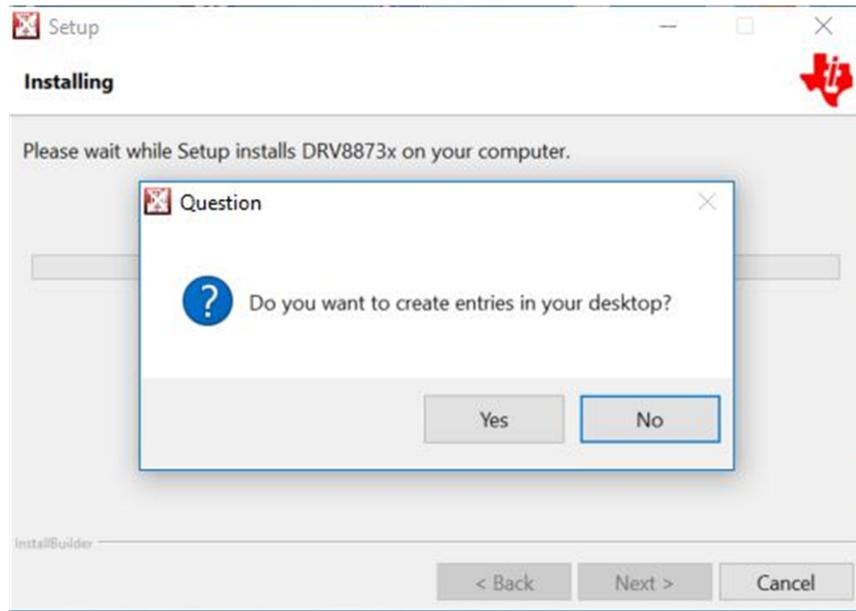

Figure 10. Desktop Icons
Step 8. Click the *Yes* button to enable desktop entries or the *No* button to disable desktop entries (see Figure 10).